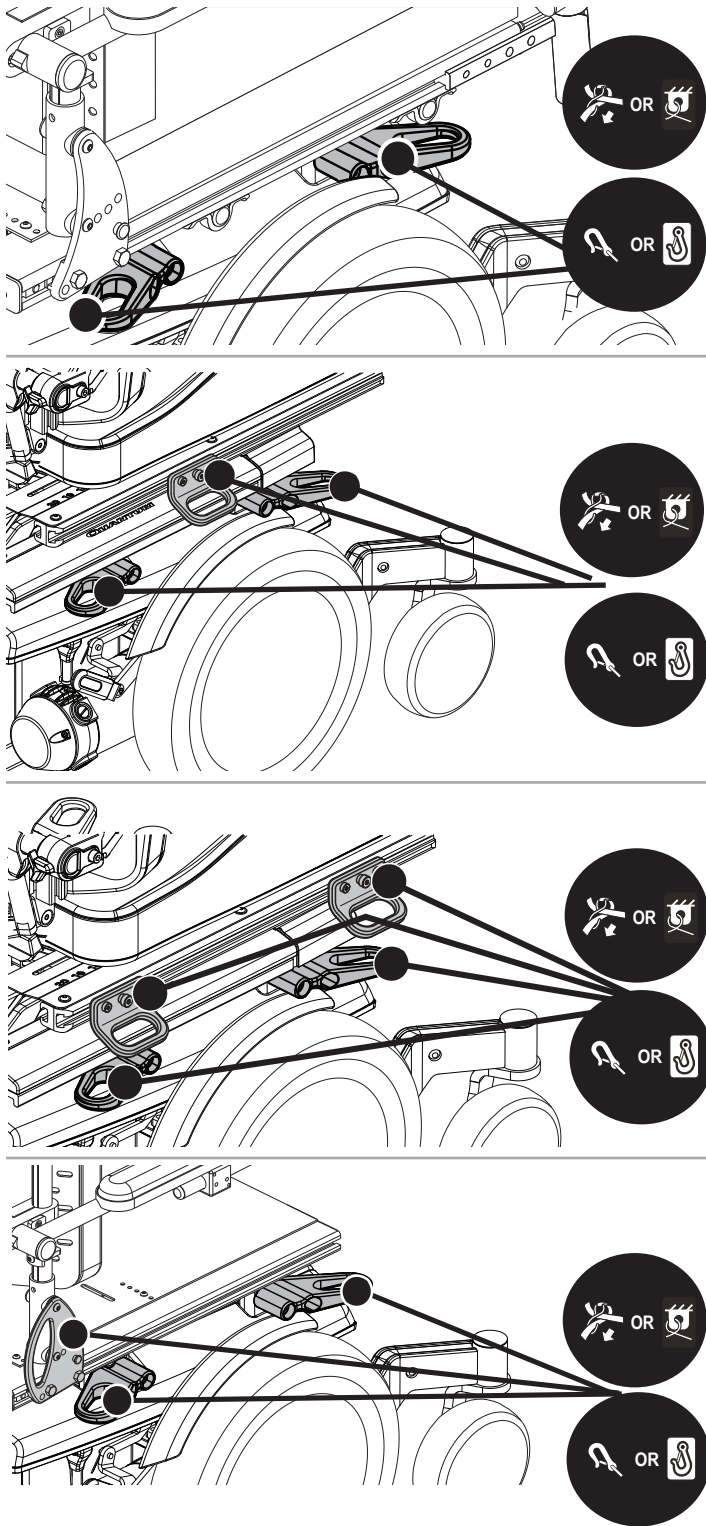

Figure 3. WTORS Belt Restraint Securement Points on Mid-wheel Drive Power Chairs (Right Sides Shown)
■ The Pride Transit Securement System includes WTORS belt restraint anchor points in conformance with ANSI/RESNA WC/Vol. 4, Section 19/ISO 7176-19. See figures 3, 4, and 5.